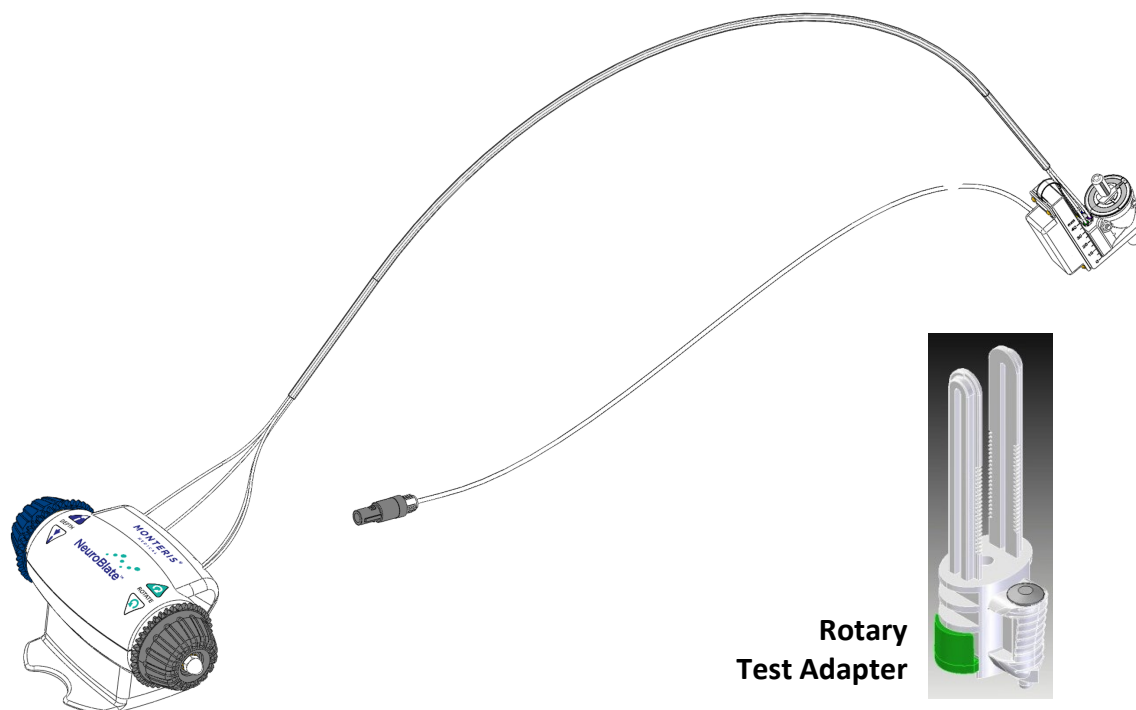

Figure 1.8: Robotic Probe Driver Components
The Robotic Probe Driver (RPD) is mounted to the NeuroBlate System Interface Platform (IP) and connected to an appropriate skull bone anchor. The RPD Position Feedback Plug (Figure 1.8) connects to the Interface Platform to communicate the Laser Delivery Probe position in the brain to the system user interface. The RPD rotates or translates (extends or retracts) the NeuroBlate Laser Delivery Probe. The RPD provides linear translation of up to 40 mm and total rotation of 340°.
The RPD is comprised of two components: the Commander and the Follower (Figure 1.8) connected by an umbilical cable. A Rotary Test Adapter is included in older versions of the RPD and can be used during Self-Test to simulate the attachment of a Laser Delivery Probe (LDP) during the procedure if desired. It will be obsolete and not available with newer versions.